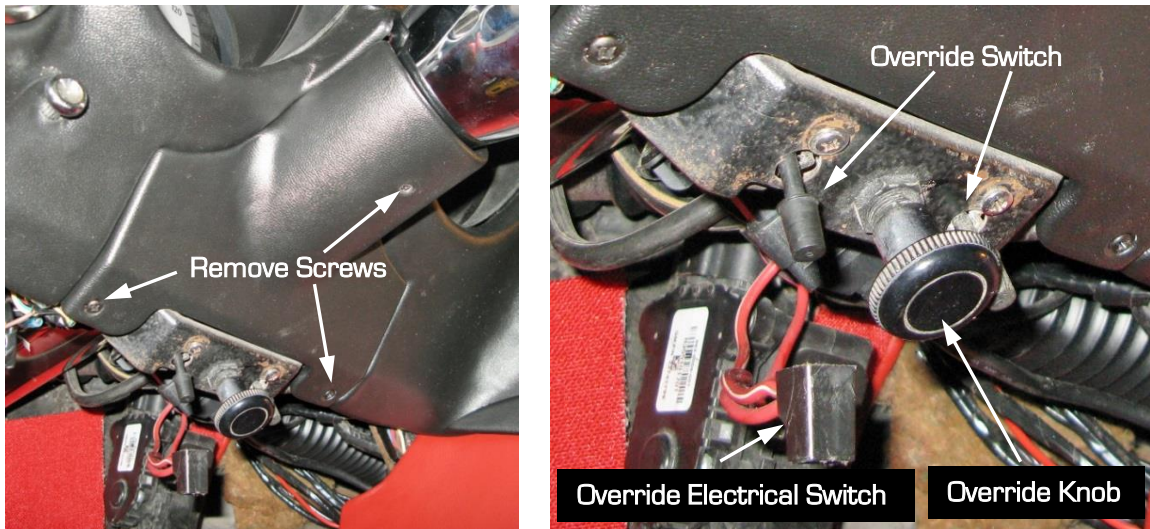

Figure 10 - Remove Lower Column Cover
19. To remove the steering column, start by removing the 2 screws from the lower column cover. **NOTE:** There may be 3 screws if you have an aftermarket steering column. You may find the vacuum override switches and/or the wiper override electrical switch (1968-72) attached to the cover (Figure 10). Remove the lower left hand side dash vent duct.